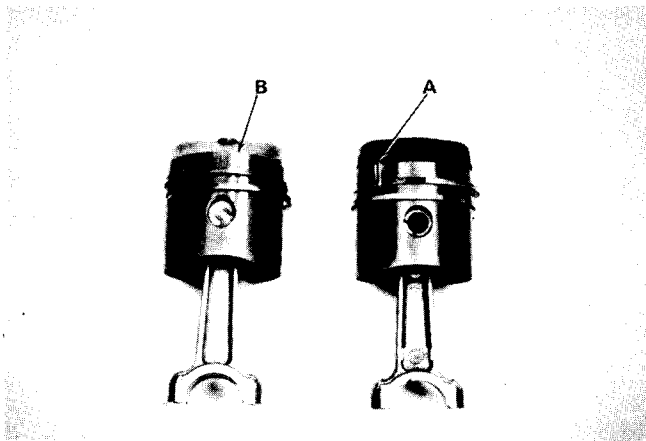

Figure 53. Piston Comparison.
The piston rod assemblies shown in Figure 53 are examples of carelessness. The piston on the right has a needle bearing (A) imbedded in the piston. Someone neglected to check for all twenty-eight when disassembling the engine. The piston (B) on the left shows galling. If replacement of the piston is ignored, it can cause the engine to overheat or difficult starting.